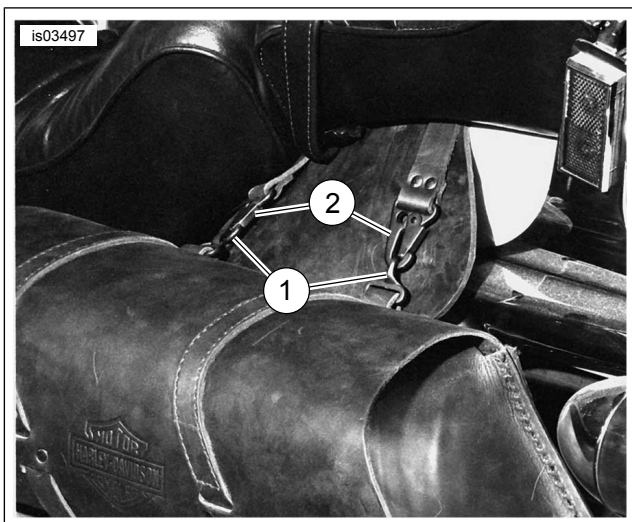

Figure 3. Saddlebag Attached to Yoke
1. See Figure 3. Attach rings (1) on saddlebag to hooks (2) on yoke.